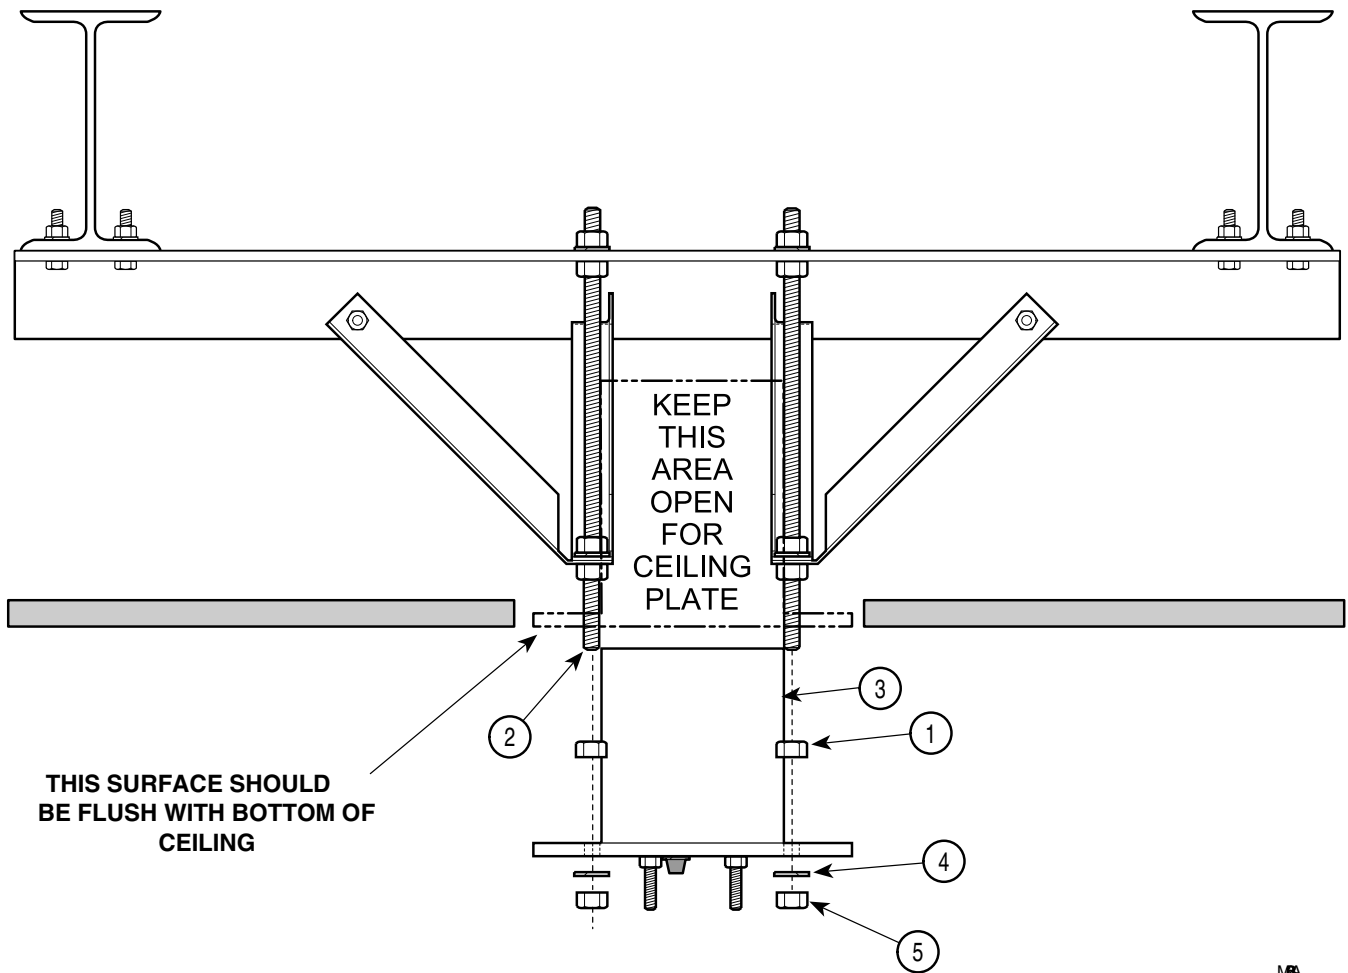

Figure 6. Suggested Ceiling Plate Assembly Installation
- (1) Install four 1/2" nuts (1, Figure 6) on four all-thread bolts (2) (not supplied).